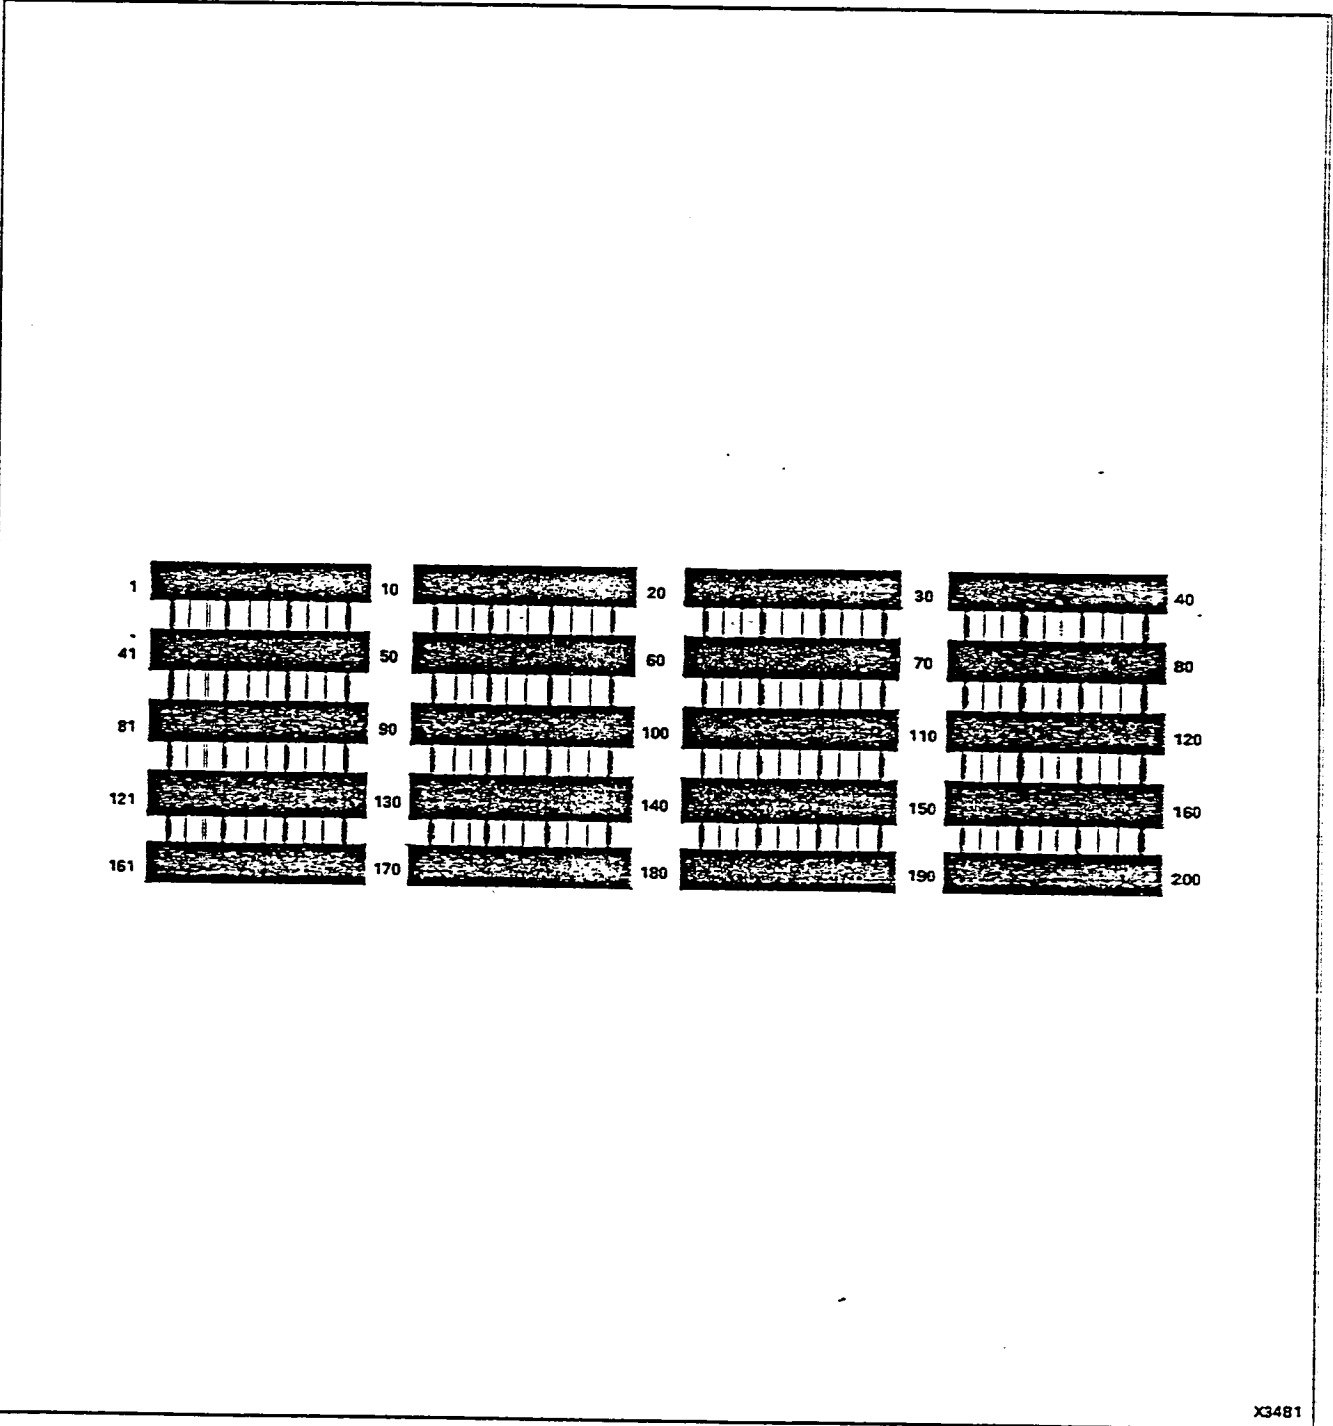

Figure 208-2 Busy Lamp Position Numbering
- (19A) Dial busy lamp position assigned to the trunk (Figure 208-2)